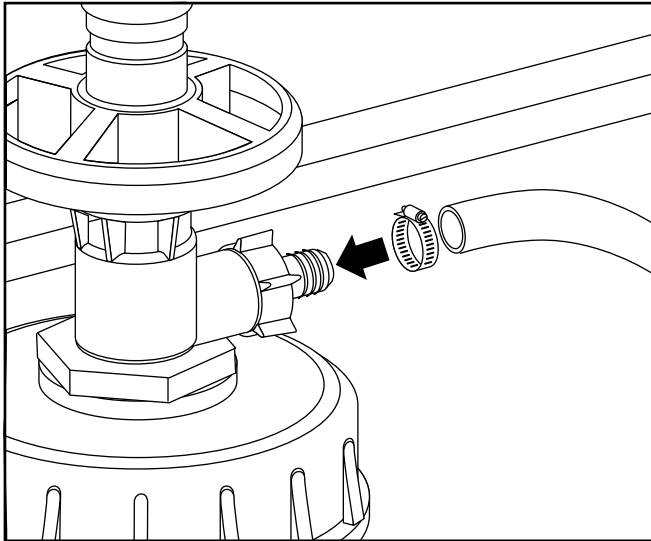

Figure 6: Installing the Hose on the Pump
6. Take the opposite end of the hose and attach it to the discharge hose barb on the pump (see Figure 6).